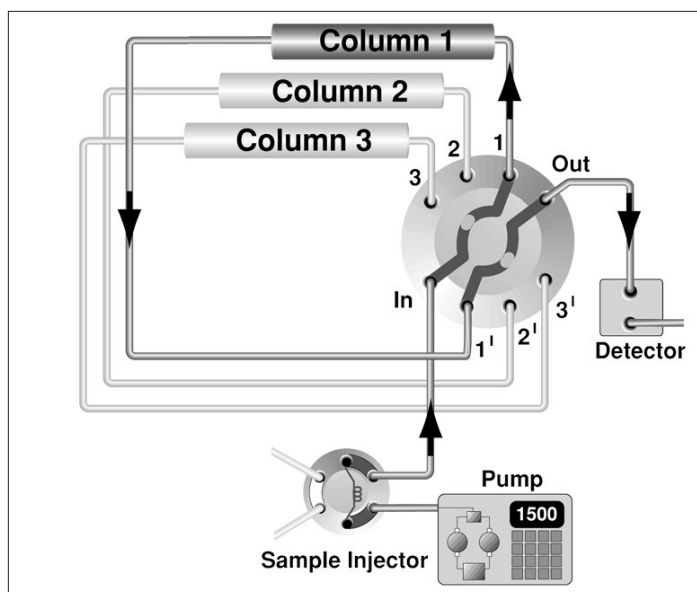

Fig. 8. 3-Column plumbing schematic.
2. Various schematic flow diagrams are shown below (Figures 1-3). The circles represent the ports in the valve stator. The slots are the connecting passages in the rotor seal. Refer to Figures 8 and 9 for schematic flow diagrams of the three and six column selectors.
2. If the valve is a 3 or 6 column selector, plumb the valve as showed in Figure 8 or 9 respectively. The pump (1) and sample injector (2) [usually an autosampler] are hooked up to the common valve inlet (3), through the columns (labeled as 1-3 or 1-6) to the common valve outlet (4) to the detector (5).